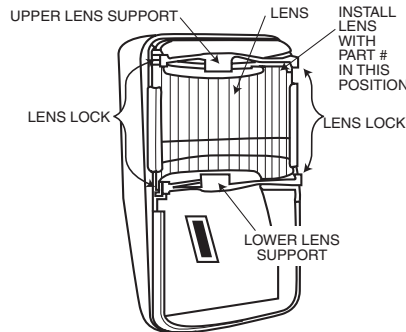

Figure 4. Changing Lenses
Squeeze lower lens lock to release lower Fresnel lens support (see Figure 4).
4. Carefully remove the existing lens and replace it with an optional coverage replacement lens. *The lens must be installed with the smooth side facing outward. Also, the lens should be oriented with its part number on the upper right-hand side (see Figure 4).* Be sure to center the lens.